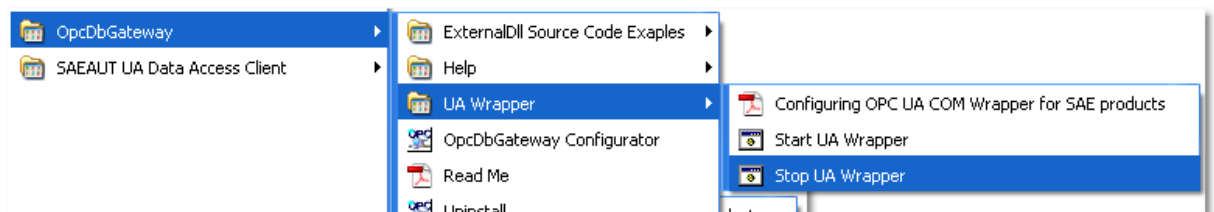

Figure 1: UA Wrapper - Stop.
1. Start wrapper from start⇒All Programs⇒OpcDbGateway⇒UA Wrapper⇒Start UA Wrapper (see Figure 1).
1. Start wrapper from start⇒All Programs⇒OpcDbGateway⇒UA Wrapper⇒Stop UA Wrapper (see Figure 1).